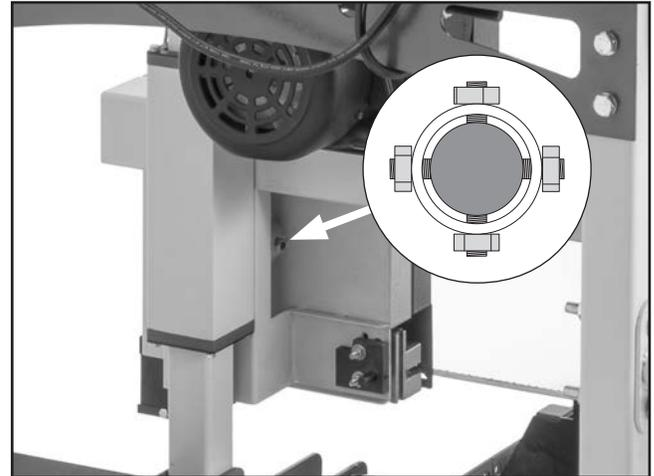

Figure 114. Location of right wheel shaft adjustment components.
There are four adjustment set screws with hex nuts in the right wheel adjustment hub, shown in **Figure 114**. These adjust the wheel tilt from side to side and up and down.
- Loosen jam nuts on right wheel adjustment hub (see **Figure 114**).